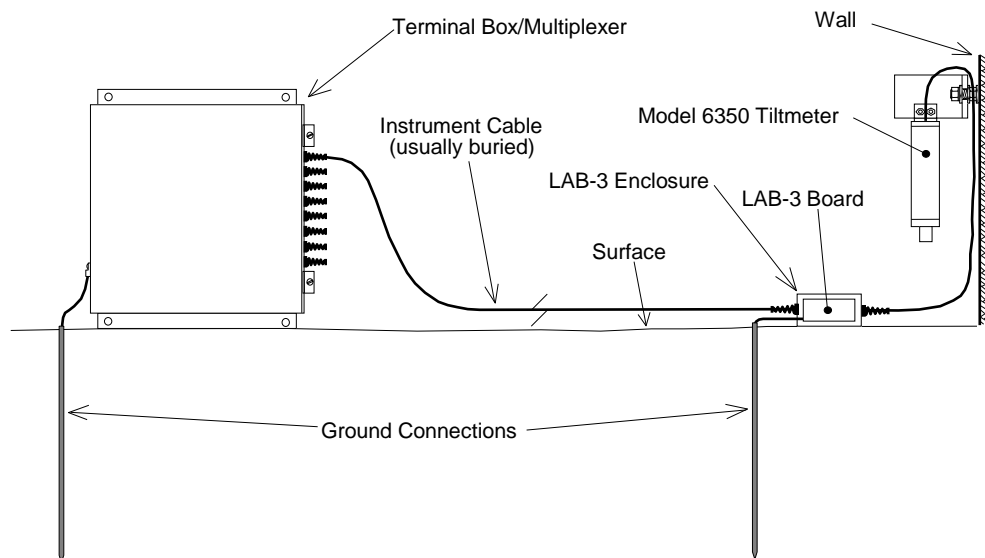

Figure 6 - Lightning Protection Scheme
- Lightning arrestor boards and enclosures are available from Geokon that install near the instrument. The enclosure has a removable top so, in the event the protection board (LAB-3) is damaged, the user may service the components (or replace the board). A connection is made between this enclosure and earth ground to facilitate the passing of transients away from the gage. See Figure 6. Consult the factory for additional information on these or alternate lightning protection schemes.